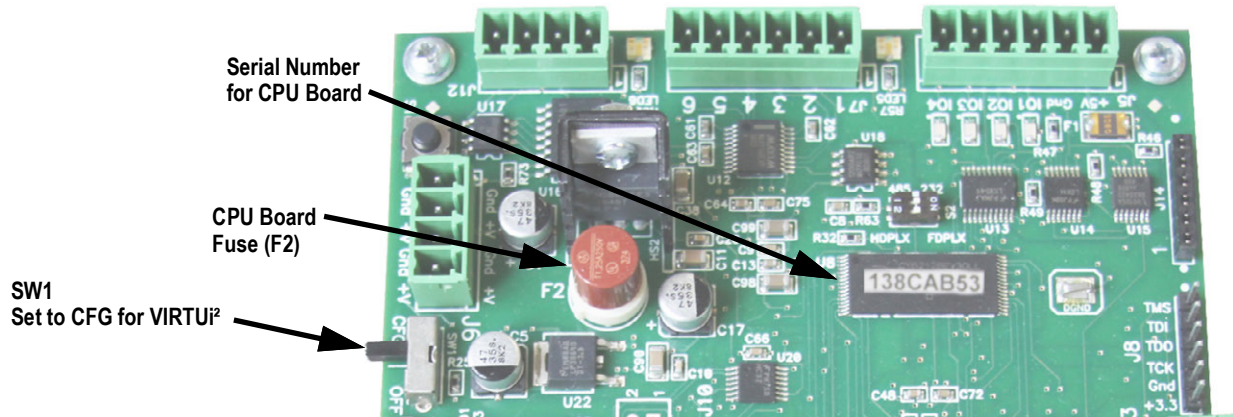

Figure 5-1. SW1 Location on CPU Board
3. For each secondary device, enter the desired ID (located on the CPU board; see Figure 5-1 on page 67).
1. Set SW1 to CFG, if not currently connected to the iQUBE². See Figure 5-1 on page 67.